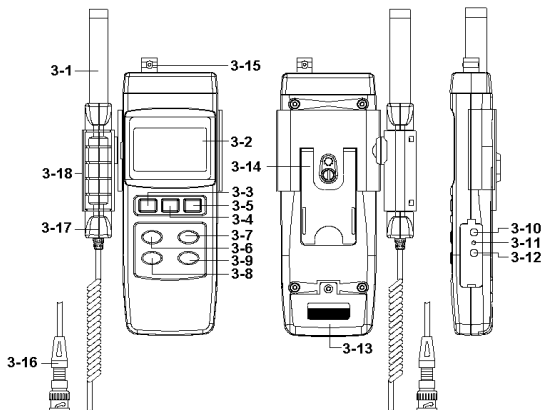

Fig. 1
- 1) * Connect the " BNC plug " (3-16, Fig. 1) into the " BNC socket " (3-15, Fig. 1)
- * Insert the " Probe handle " (3-17, Fig. 1) into the " Probe holder " (3-18, Fig. 1).
- * Power on by pressing the " Power On/Off Button " (3-3, Fig. 1) , the meter's default function is " Auto range " , " A frequency weighting " & " Fast time weighting ". The lower LCD display will show the unit " A. Fast Auto " .
- 2) Select " A " or " C " frequency weighting by pressing the " A/C Button " (3-7, Fig. 1) .
- 3) Determine proper measuring range by pressing the " Range Button " (3-9, Fig. 1) .
- 4) According to various measuring sound source, select the Time Weighting (Fast or Slow) by pressing the " Time Weighting Button " (3-8, Fig. 1).
If intend to maintain the maximum value, press the " Max. Hold Button " (3-6, Fig. 1) and a " P.H " symbol will show on the top LCD display. Press the " Max. Hold Button again to exit the function.
During the measurement, pushing the " Hold Button " (3-4, Fig. 1) will hold the measured value & the LCD will indicate " HOLD " symbol.
* The data record function displays the maximum and minimum readings. To start the DATA RECORD function, press the " REC. Button " (3-5, Fig. 1) once. " REC " symbol will appear on the LCD display.
a) Push the " REC. Button " (3-5, Fig. 1) once, the " REC Max " symbol along with the maximum value will appear on the display.
If intend to delete the maximum value, just press the " Hold Button " (3-4, Fig. 1) once a while, then the display will show the " REC " symbol only & execute the memory function continuously.
b) Push the " REC. Button " (3-5, Fig. 1) again, the " REC Min " symbol along with the minimum value will appear on the display.
If intend to delete the minimum value, just press the " Hold Button " (3-4, Fig. 1) once a while, then the display will show the " REC " symbol only & execute the memory function continuously.
To de-activate this feature, Select the memory record function during measurement, by pressing the " REC. Button " (3-5, Fig. 1).
The instrument is provided an 3.5 mm dia. phone socket (3-10, Fig. 1) for AC output, it is used to connect with analyzer, level recorder, tape recorder, controller...etc.
The instrument is provided an 3.5 mm dia. phone socket (3-12, Fig. 1) for RS232 computer interface socket.
- 2) Open the " Battery Cover " (3-13, Fig. 1) away from the instrument and remove the battery.
- 1) Prepare the optional " SOUND CALIBRATOR ", such as " SC-941 " or " SC-942 ". Power on the Sound Calibrator & plug calibrator output socket into the " Microphone " head (3-1, Fig. 1) of the Sound Level meter.
- 5) Adjust the " Calibration VR " (3-11, Fig. 1) carefully with a " - " screw driver until the display reading value within " 94 +/- 0.2 " dB.